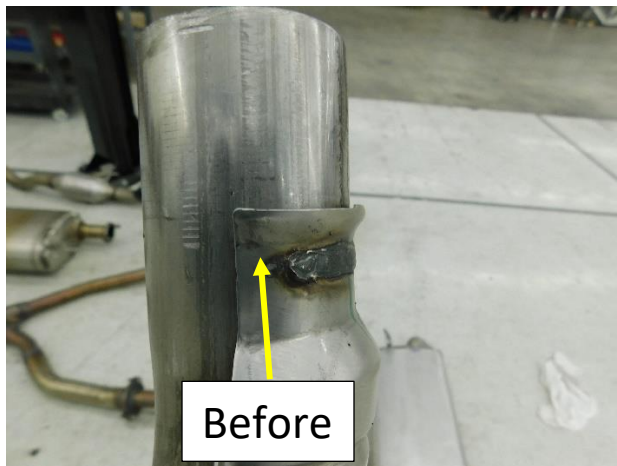

Figure.6
- **Adaptor Pipe "A" PN: TB943M (2)** This will be the adaptor pipe supplied with No step down
- **Band Clamp PN: MC248BS (63mm) (5)**
- Use a small hammer to work the lip of the heat shield back to the weld and then flatten the heat shield edge back over itself. **Fig. 6, 7**